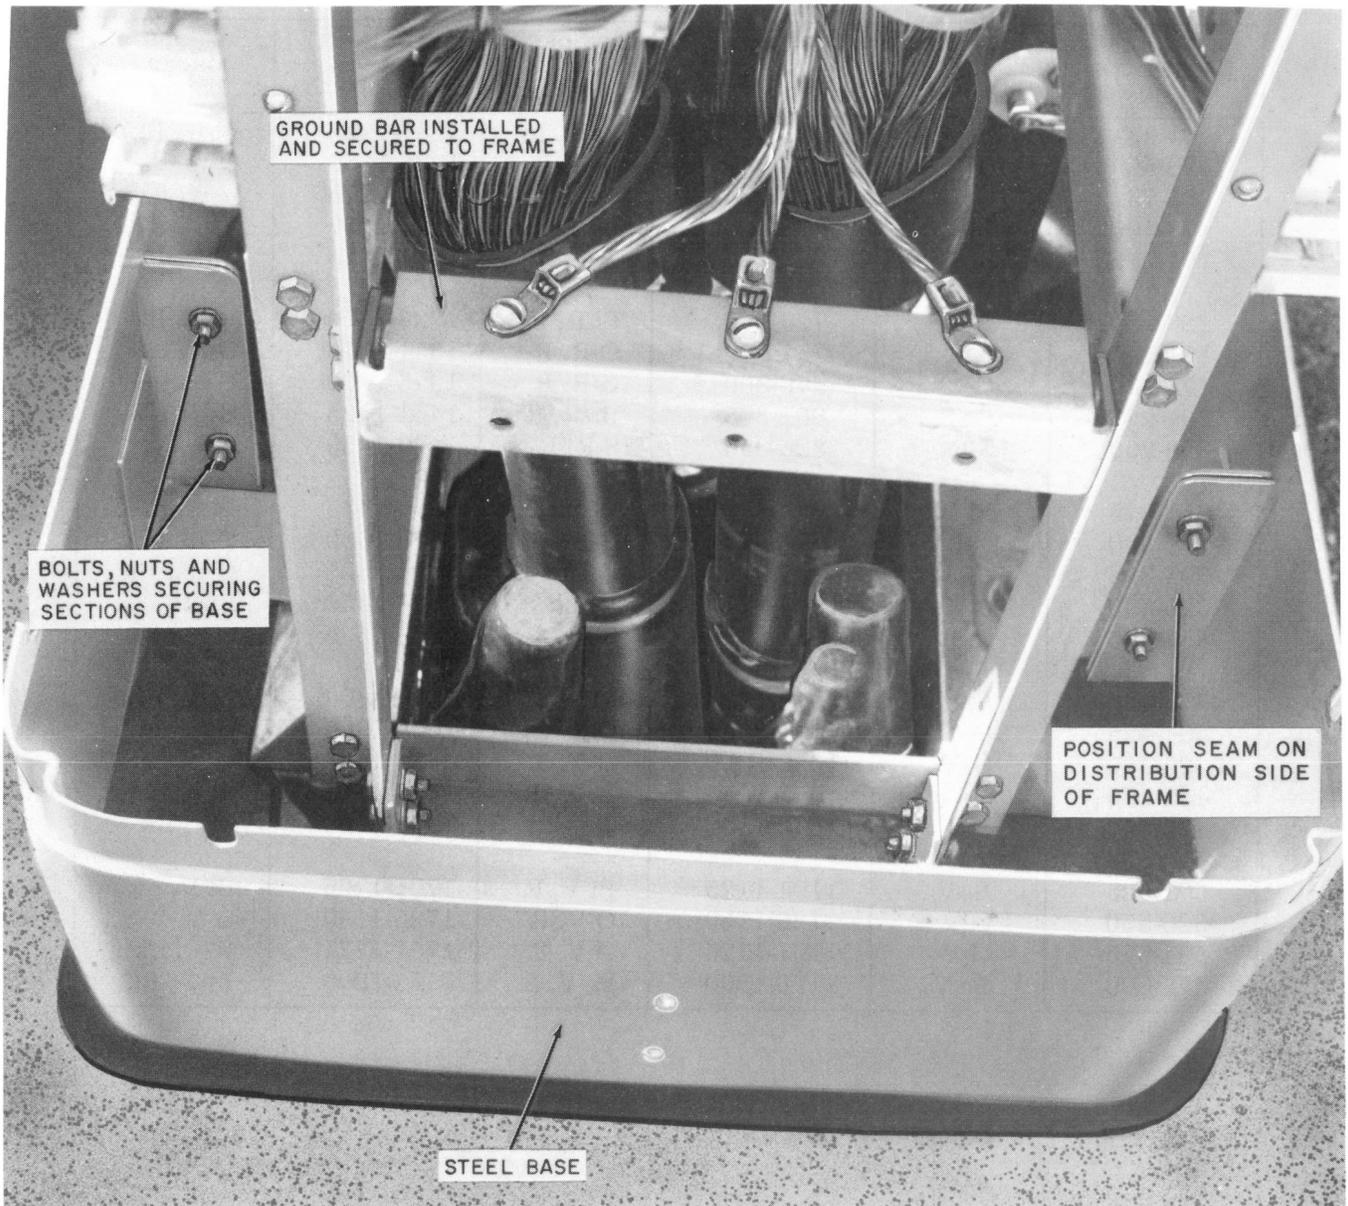

Fig. 14—Installed Base
6.03 Install and secure base bar and ground bar (removed in 6.02) to frame. Attach bond straps from cables to ground bar (Fig. 14).
6.04 Install steel base around bottom of frame as shown in Fig. 14. ***Orient the base so that the seams are located on the side with the distribution panel. Then bolt base halves together and secure frame assembly and a base assembly to concrete foundation using nuts and washers furnished with interface. Tighten securely.***